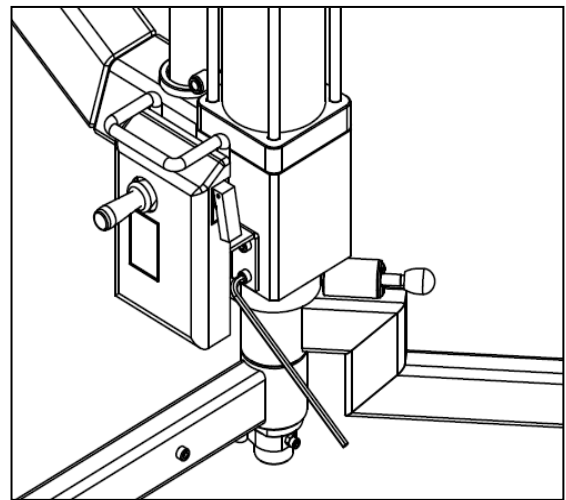

FIG9
2.6 fix the handle control box to the main rotation arm side with 4*M6X10 screws by 5#Allenkey like FIG9.